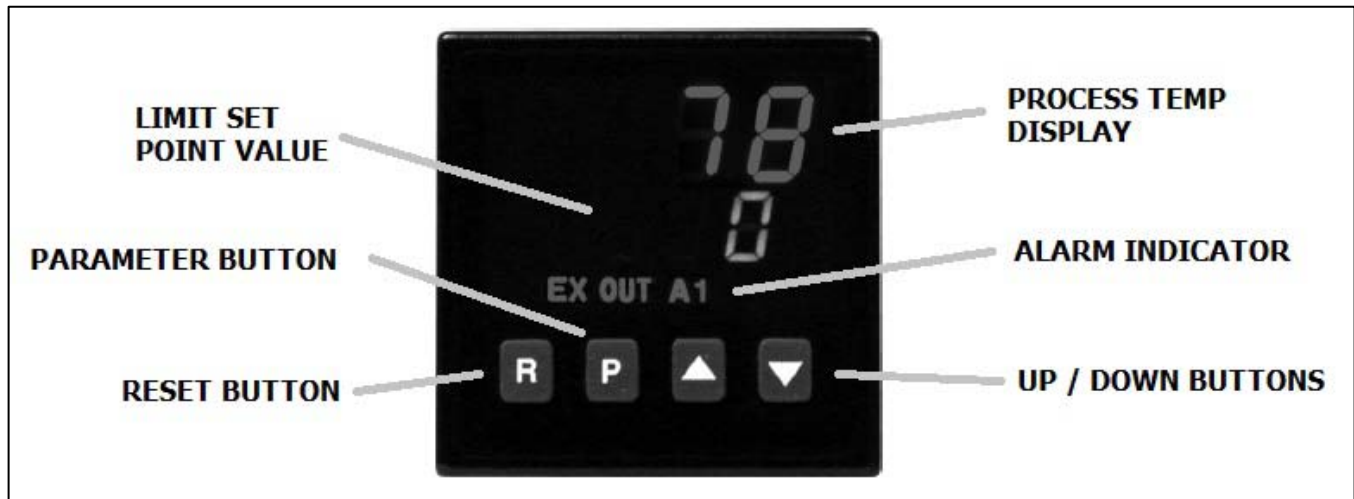

Figure 8: High Limit Controller Display
11. If the High Limit Option is available then adjust the alarm set point on the high limit controller (See Figure 8)